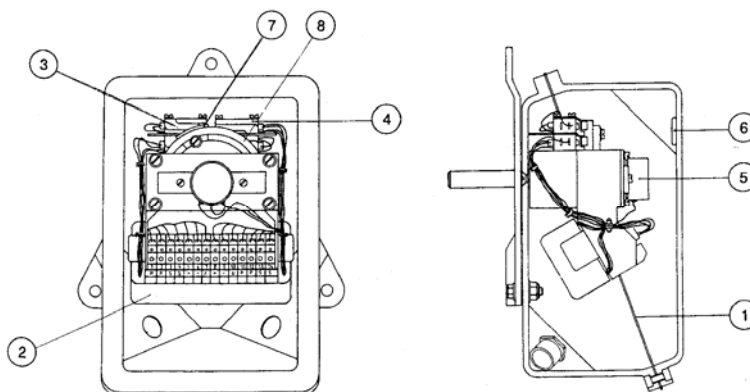

Fig. 2-13 RF14XU - Spare Parts
2. Measure the voltage between "U" and "+", respectively "-" on the RF14XU terminal board. If the two measured voltages do not have the same numerical value, loosen the two clamping screws on the potentiometer and turn the potentiometer housing. (Fig. 2-13 pos. 5) until the same numerical value is measured. The RF14XU is now set to midposition. Tighten the two clamping screws.